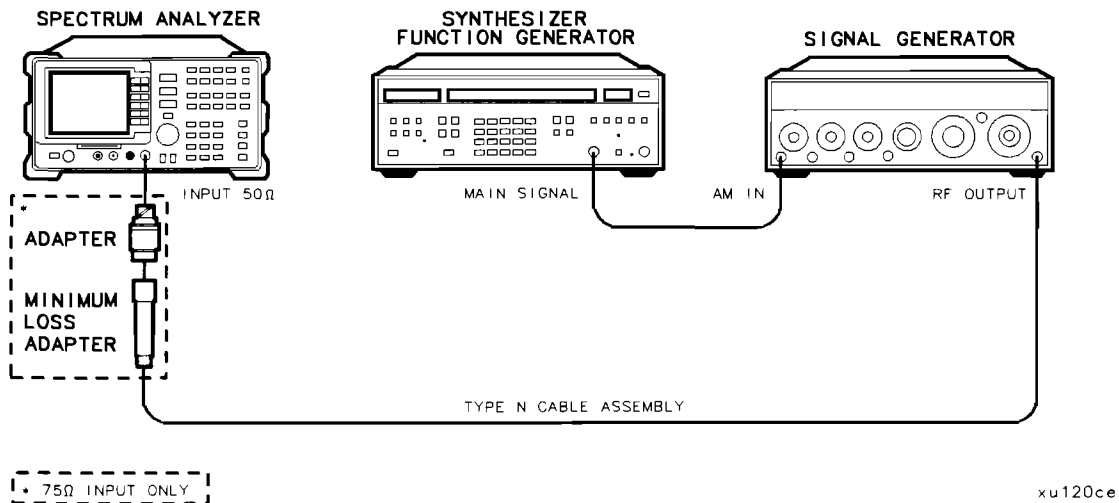

Figure 2-16. Sweep Time Accuracy Test Setup
3. Connect the equipment as shown in Figure 2-16.